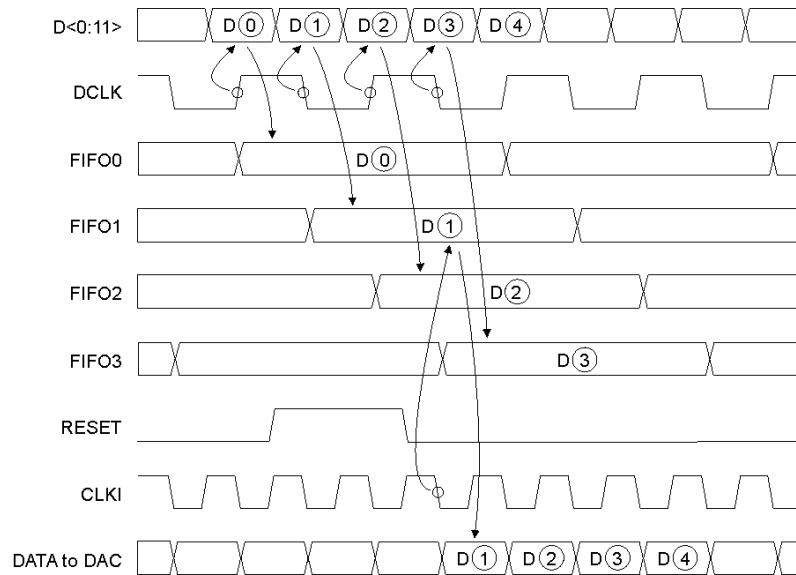

Figure 5. RDA012RZ input data timing.
A timing example scenario is given in Figure 5. When the RESET signal goes low, the data stored in the register FIFO1 exhibits the widest timing window. So the data D(1) is taken into the F/F from the FIFO. By employing 4 clocks deep FIFO, maximum delay fluctuation of $1.5 t_{ck}$ between the RCLK and the DCLK can be tolerated.